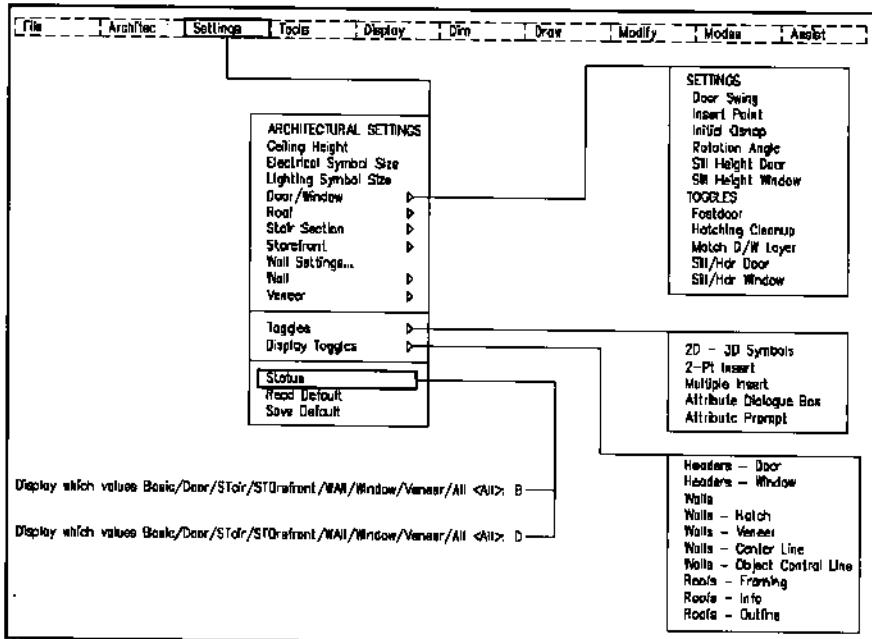

Figure 7.
2. The full range of setting and toggle selections for either the cascading menus or the Status display screens is shown in Figure 7.